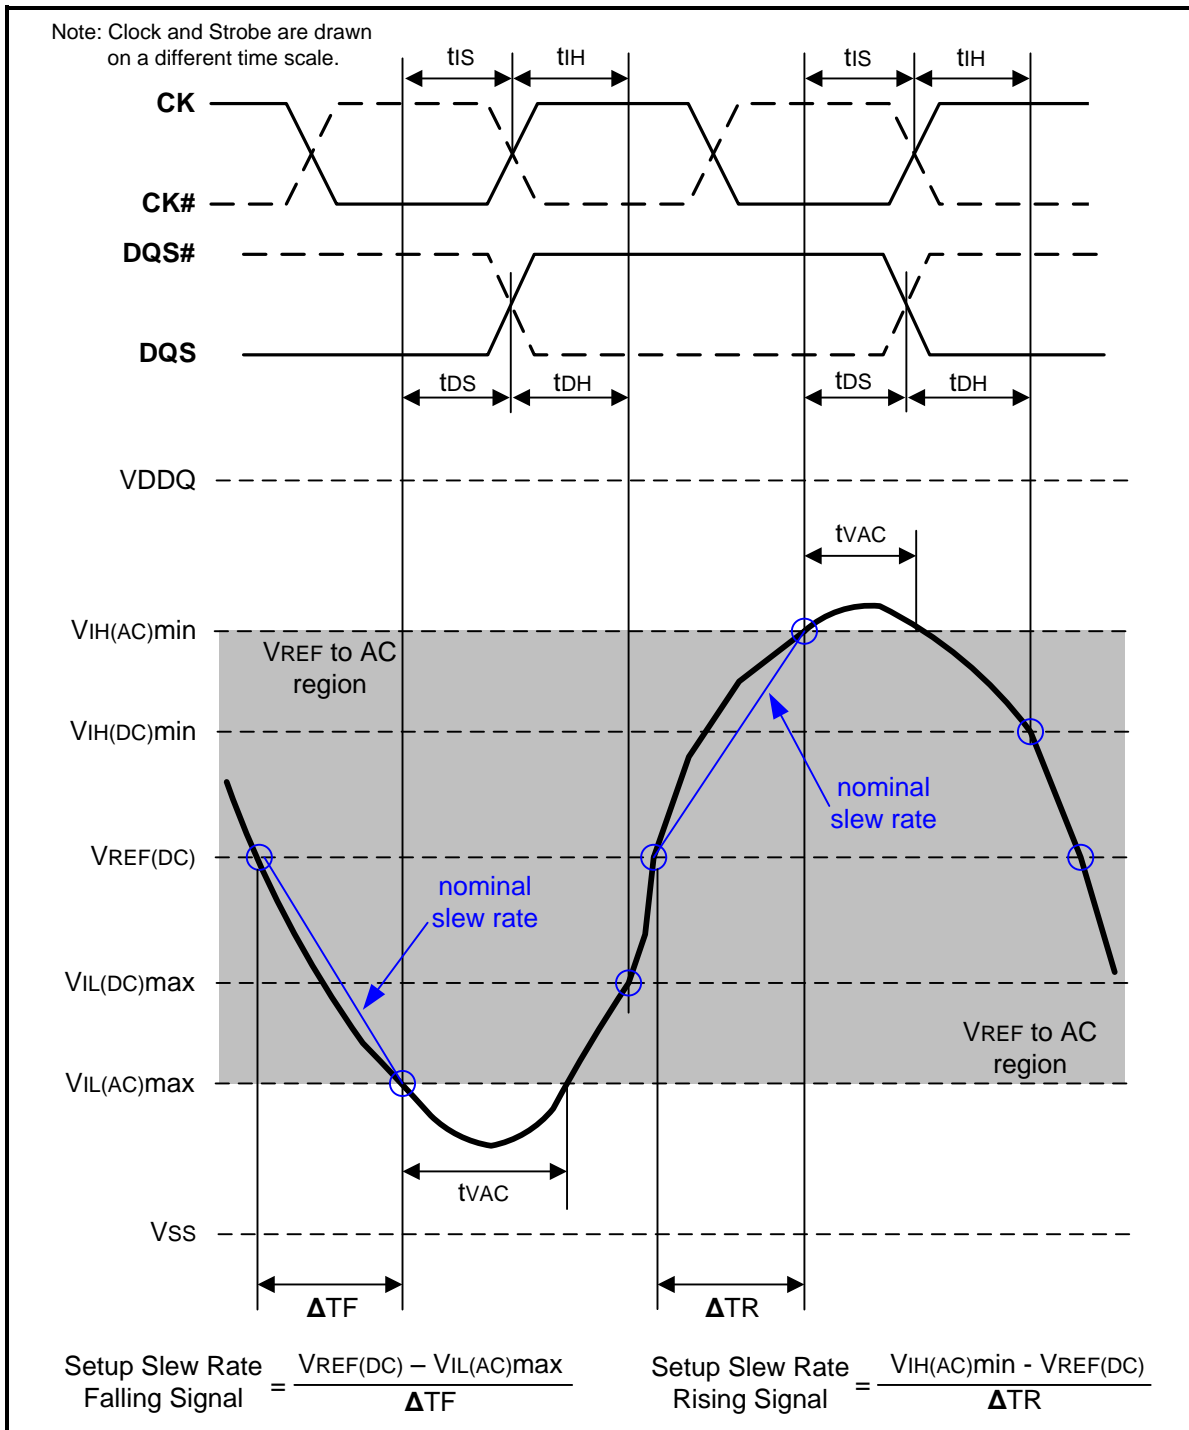
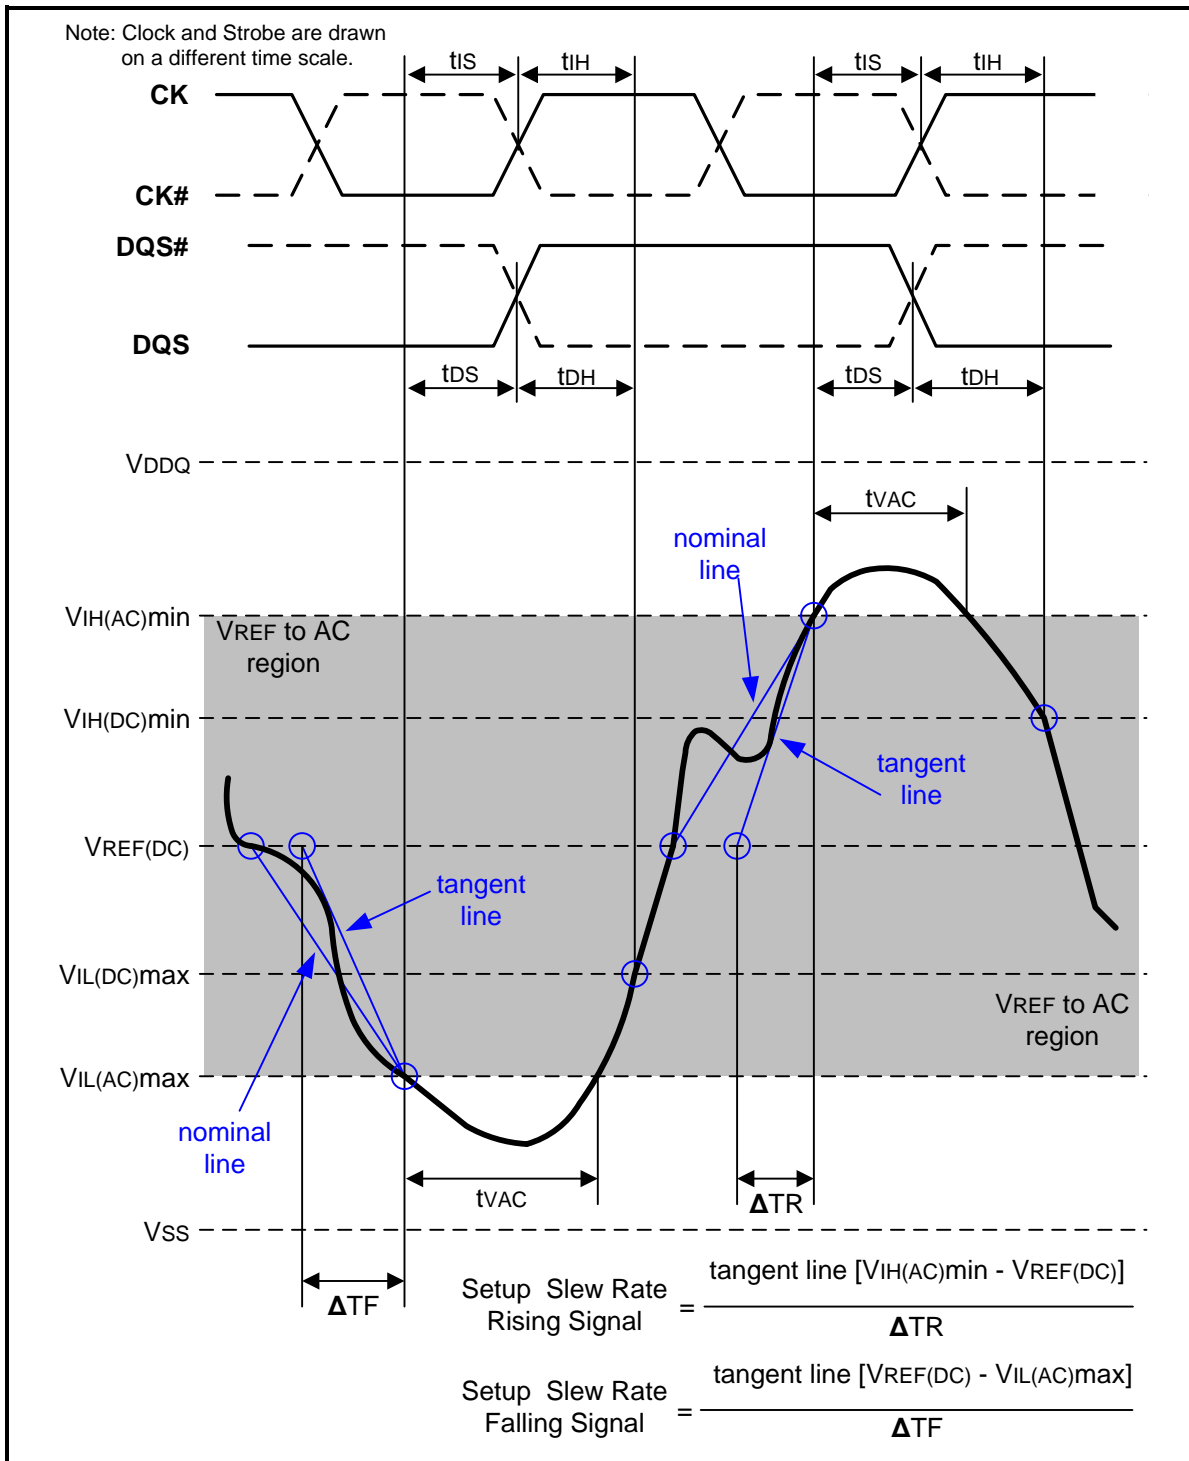

Figure 107 – Illustration of nominal slew rate and tvAC for setup time tDS (for DQ with respect to strobe) and tIS (for ADD/CMD with respect to clock)
Figure 109 – Illustration of tangent line for setup time  $t_{DS}$  (for DQ with respect to strobe) and  $t_{IS}$  (for ADD/CMD with respect to clock)
Setup ( $t_{IS}$ ) nominal slew rate for a rising signal is defined as the slew rate between the last crossing of  $V_{REF(DC)}$  and the first crossing of  $V_{IH(AC)min}$ . Setup ( $t_{IS}$ ) nominal slew rate for a falling signal is defined as the slew rate between the last crossing of  $V_{REF(DC)}$  and the first crossing of  $V_{IL(AC)max}$ . If the actual signal is always earlier than the nominal slew rate line between shaded 'VREF(DC) to AC region', use nominal slew rate for derating value (see Figure 107). If the actual signal is later than the nominal slew rate line anywhere between shaded 'VREF(DC) to AC region', the slew rate of a tangent line to the actual signal from the AC level to DC level is used for derating value (see Figure 109).
Setup (tDS) nominal slew rate for a rising signal is defined as the slew rate between the last crossing of VREF(DC) and the first crossing of VIH(AC)min. Setup (tDS) nominal slew rate for a falling signal is defined as the slew rate between the last crossing of VREF(DC) and the first crossing of VIL(AC)max (see Figure 107). If the actual signal is always earlier than the nominal slew rate line between shaded 'VREF(DC) to AC region', use nominal slew rate for derating value. If the actual signal is later than the nominal slew rate line anywhere between shaded 'VREF(DC) to AC region', the slew rate of a tangent line to the actual signal from the AC level to DC level is used for derating value (see Figure 109).